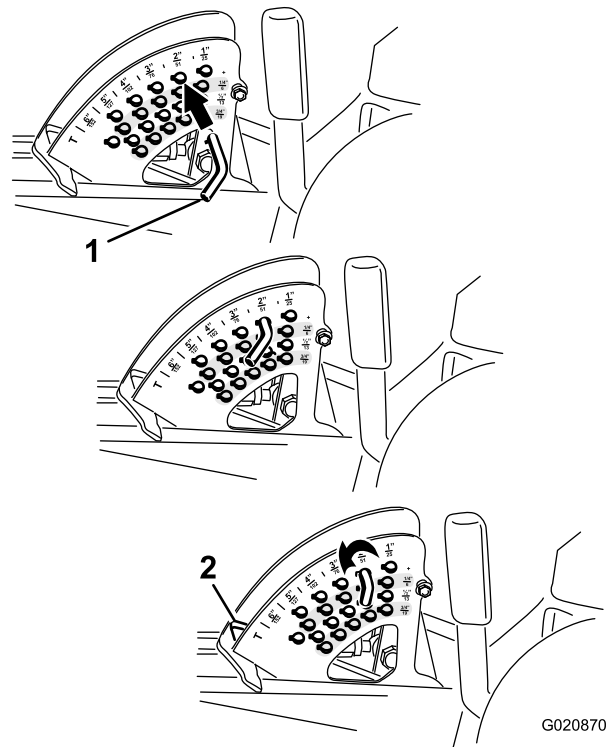

Figure 20
Note: To lock the mower deck in a raised position, raise the deck past the 15 cm (6 inch) position, remove the height of cut stop pin and place the pin in the 15 cm (6 inch) height-of-cut position (Figure 20).
2. To adjust, rotate the stop pin until the roll pin in it lines up with the slots in the holes in the height-of-cut bracket and remove it (Figure 20).
3. Select a hole in the height-of-cut bracket corresponding to the height-of-cut desired, insert the pin, and rotate it down to lock it in place (Figure 20).
Note: There are 4 rows of hole positions (Figure 20). The top row gives you the height of cut listed above the pin. The second row down gives you the height listed plus 6 mm (1/4 inch). The third row down gives you the height listed plus 12 mm (1/2 inch). The bottom row gives you the height listed plus 18 mm (3/4 inch). For the 15.8 cm (6 inch) position there is only one hole, located in the second row. This does not add 6 mm (1/4 inch) to the 15.8 cm (6 inch) position.